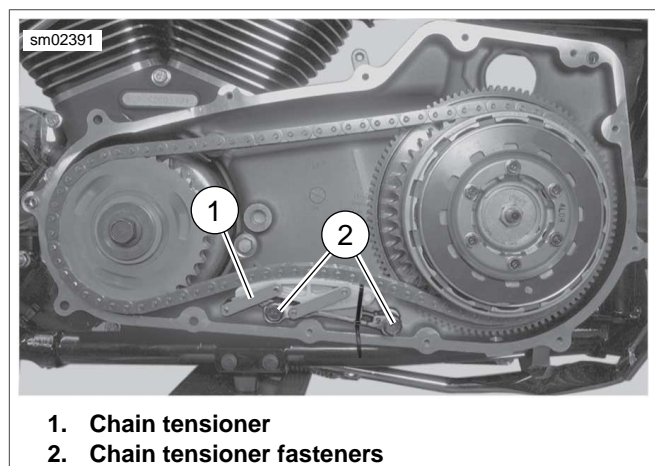

Figure 5-18. Chain Tensioner
17. See Figure 5-18. Install primary chain tensioner (1) into place. Install chain tensioner fasteners (2) and tighten to 15-19 ft-lbs (20.3-25.8 Nm). Remove cable tie.